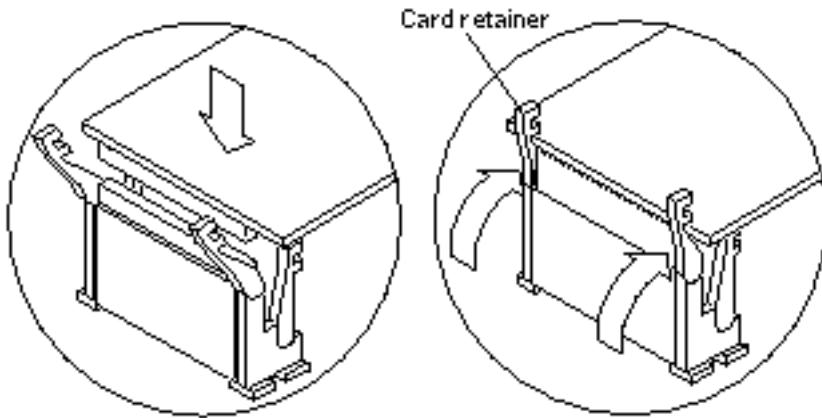
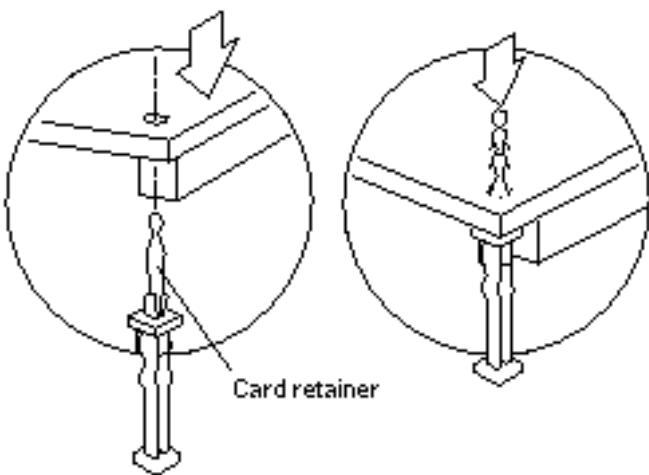

Figure 2-16 Lock in the SBUS Card Retainers, SBUS Slots 0 or 1
Figure 2-17 Lock in the SBUS Card Retainer, SBUS Slot 2
Do not force the card, or you may damage the pins on the card. If the SBus card is located in SBus slot 0 or 1, see Figure 2-16. If the SBus card is located in SBus slot 2, see Figure 2-17.
- If the SBus card is located in SBus slot 0 or 1, push the rear card retainers forward over the edge of the SBus card. See Figure 2-16.
See Figure 2-17. There is only one card retainer for the SBus slot 2.